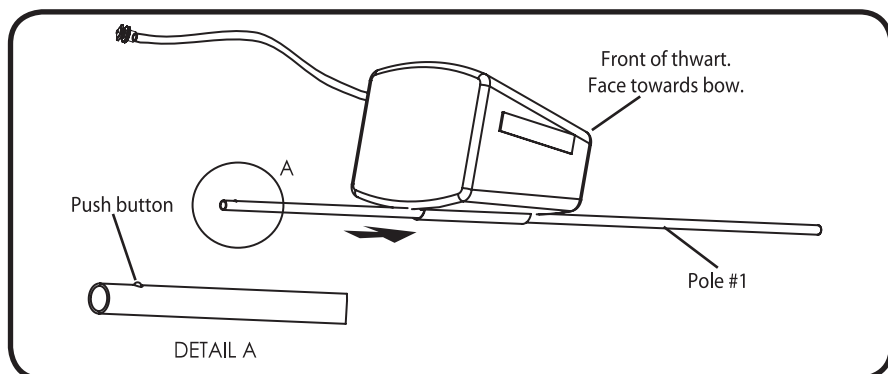

Figure 4
4. Once the poles are assembled and the floor is installed, begin by inserting pole #1 into the sleeve on the bottom of the front thwart (leave deflated) making sure that the numbered end of the pole is at the back end of the Front Thwart. **See Figure 4.**